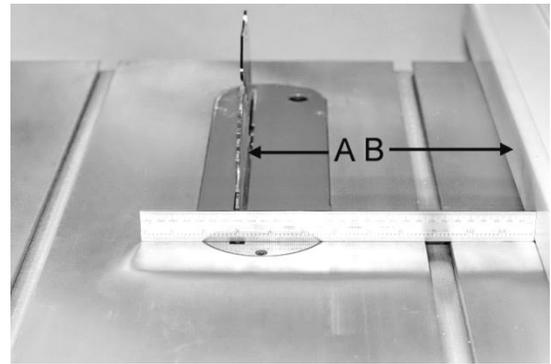

Figure 31
The *rip fence* (A, Figure 31) should be set for the width of the cut by using the scale on the front rail, or by measuring the distance between blade (A) and fence (B). Stand out of line with saw blade and workpiece to avoid sawdust and splinters coming off the blade or a potential kickback.